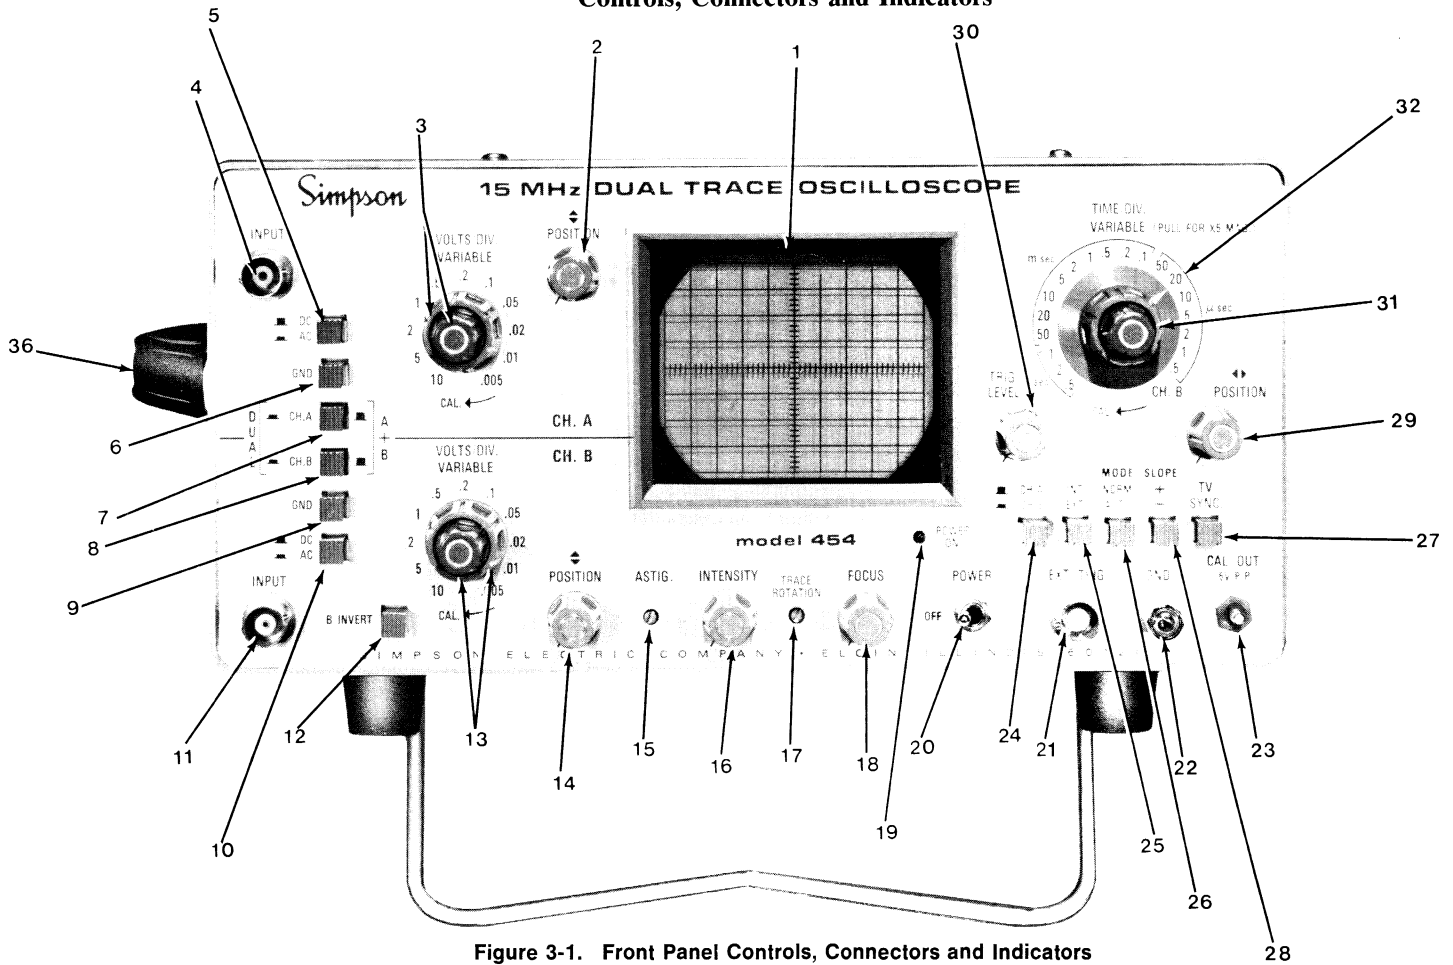

Figure 3-1. Front Panel Controls, Connectors and Indicators
3.1.1 All controls, connectors, indicators and other operational items are described in Table 3-1, and shown in Figures 3-1 and 3-2. Become thoroughly familiar with the name and purpose of each item before operating the Instrument.